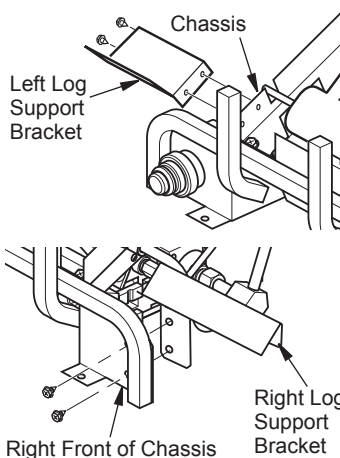

Figure 18 - Installing Log Support Brackets
1. Install left bracket to left side of chassis using 2 screws provided (see *Figure 18*).
2. Install right bracket to right front of chassis using 2 screws provided (see *Figure 18*). This bracket will also be used as remote control bracket if remote is installed.